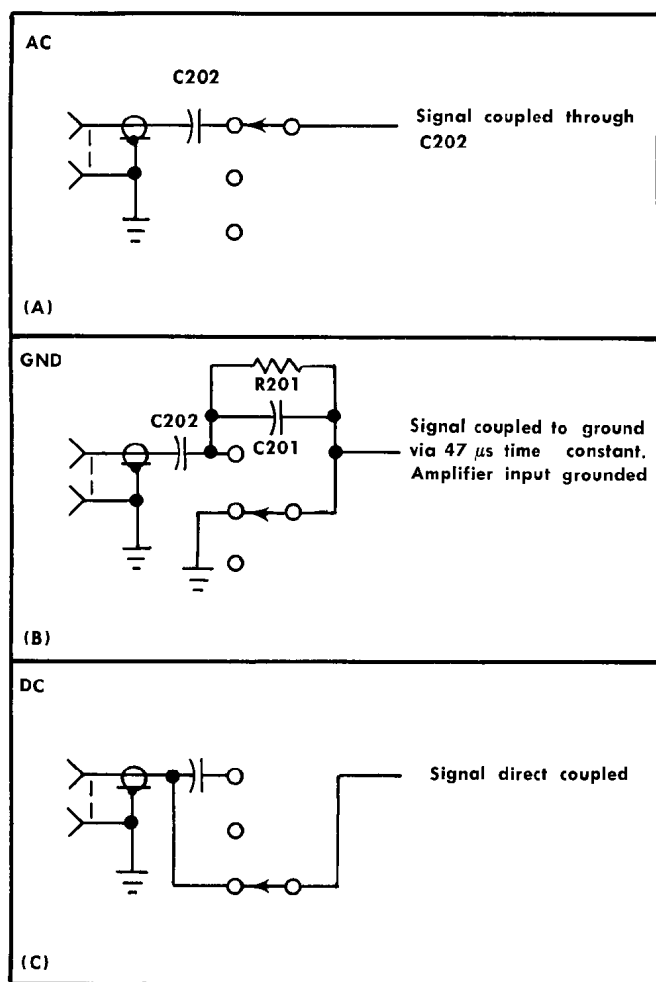

Fig. 3-6. Signal path for 3 positions of the input coupling switch.
Signals applied to the + and — input connectors may be AC coupled, direct (DC) coupled or internally disconnected (see Fig. 3-6).